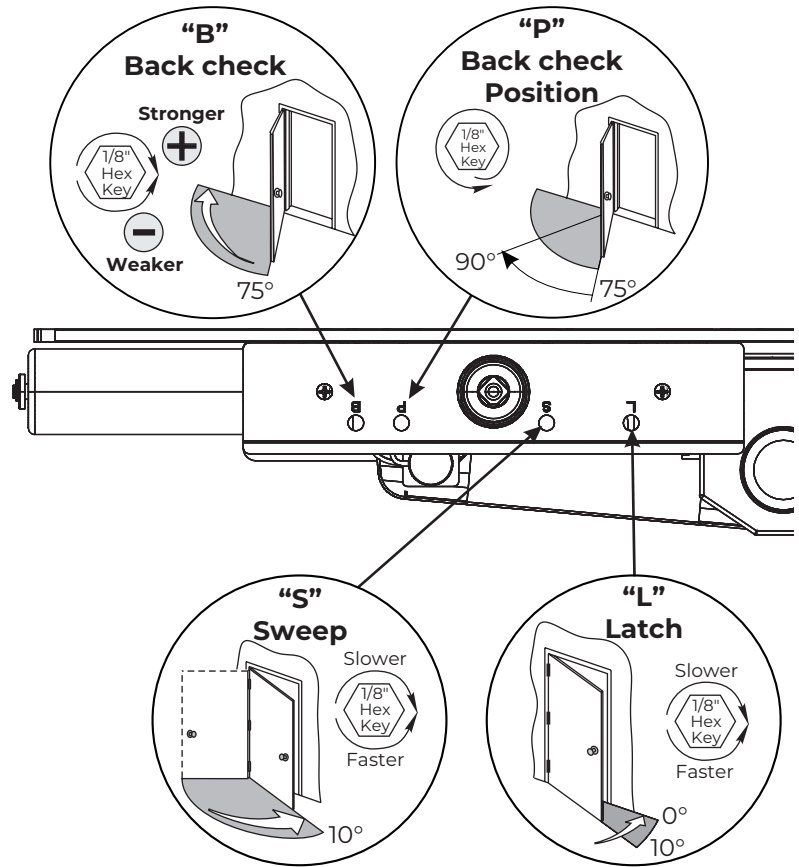

Figure 25 View from ceiling looking downward
1. Closing Speed Controls (Figure 25)
2. Opening Cycle (Figure 25)